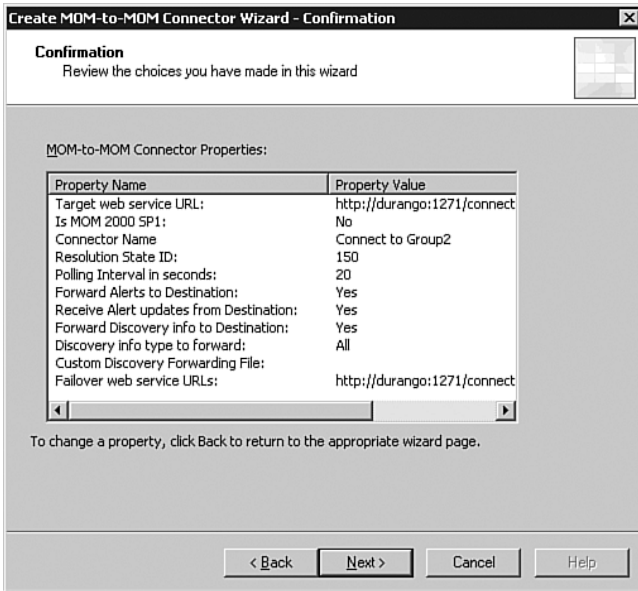

FIGURE 19.11 The Confirmation screen.
6. On the Confirmation screen (see Figure 19.11), you can review the settings or go back and make changes as necessary.